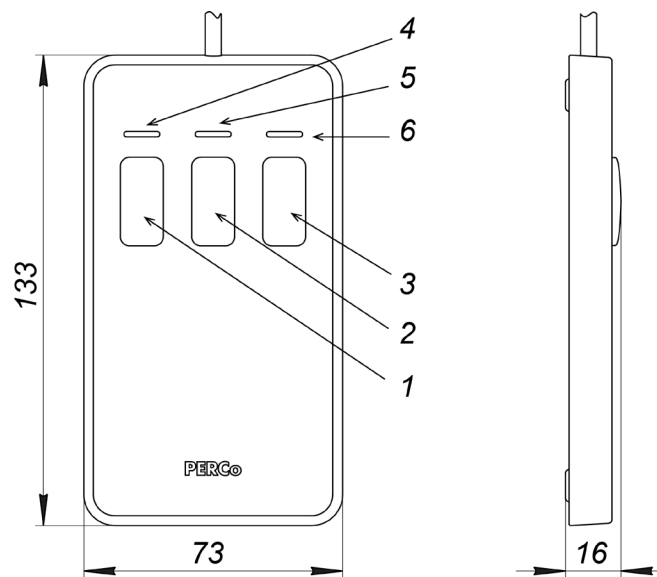
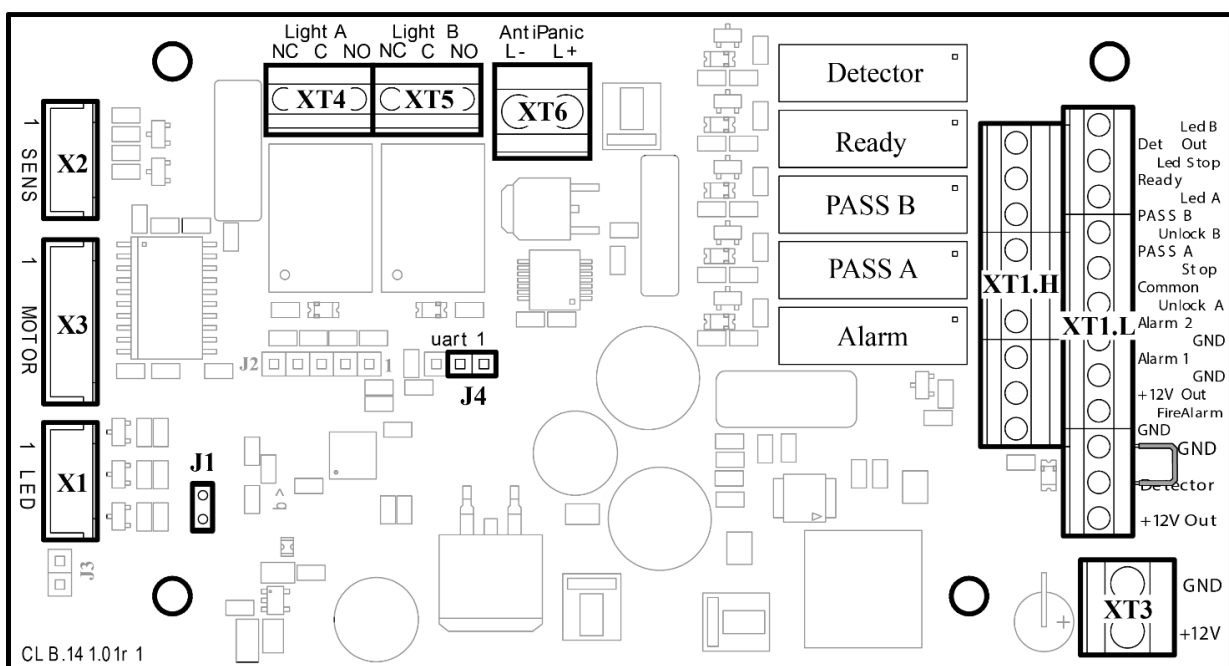

Fig. 4. Overall view and dimensions of the RC panel
Fig. 5. Overall view of the CLB board
The RC panel (9) is designed as a small desktop device in a shockproof ABS plastic case and is intended for setting and indicating operation modes when the turnstile is controlled manually. The RC panel is connected to the board with a flexible multicore cable (10) via the **XT1.L** terminal block (see Fig. 5). The overall view of the RC panel is shown in Fig. 4.
Inside the turnstile housing, there is a bracket outfitted with a CLB (see Fig. 5) and terminal blocks for connection of external devices. An RC panel, ACS outputs, WRC device (when used), intrusion detector (optional), and *Fire Alarm* emergency passage unblocking device are connected to the CLB. Connection lines of the power supply unit and signal lines of card readers are placed on the terminal blocks for connection of external devices. External devices are connected in accordance with the electrical connection layout (see Fig. 13).
The CLB (see Fig. 5) contains:
The control mode is selected with a jumper on the **J1** connector of the control board. The location of the **J1** connector is shown in Fig. 5. By default, the jumper is installed, which activates the pulse control mode. To switch to the potential control mode, the jumper needs to be removed. The control mode will change as soon as the turnstile is switched on.
Voltage supply to the relay coil is indicated by lighting up of the relevant red LED on the control board near the corresponding relay (see Fig. 5).